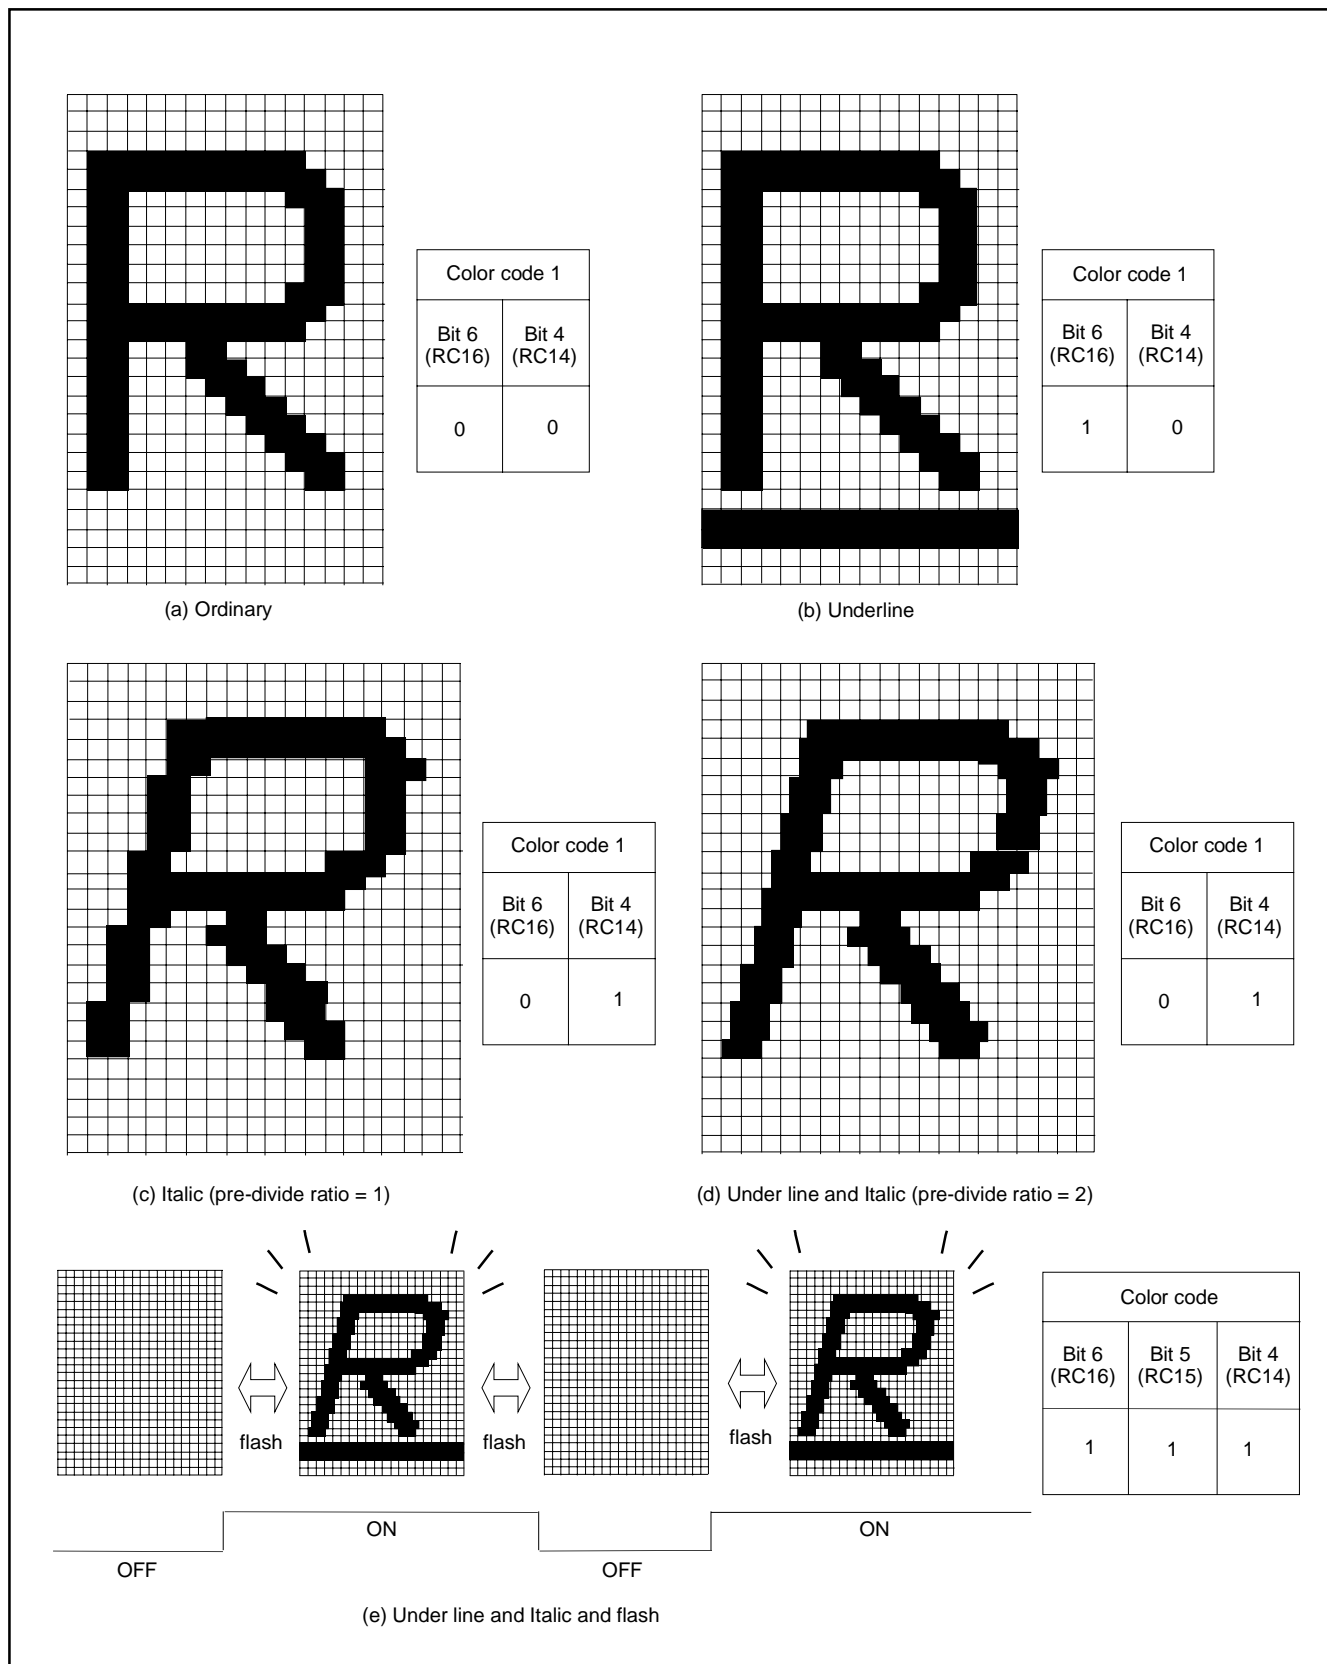

Fig. 8.11.30 Example of Attribute Display (in CC Mode)
The display example of attribute is shown in Figure 8.11.30. In this case, "R" is displayed.
**4:** When the pre-divide ratio = 1, the italic character with slant of 1 dot X 5 steps is displayed; when the pre-divide ratio = 2, the italic character with slant of 1/2 dot X 10 steps is displayed (refer to Figure 8.11.30 (c), (d)). However, when displaying the italic character with the pre-divide ratio = 1, set the OSD clock frequency to 11 MHz to 14 MHz.
**7:** When displaying the 32nd character in the italic and when solid space is off (OC14 = "0"), parts out of character area is not displayed (refer to Figure 8.11.30).